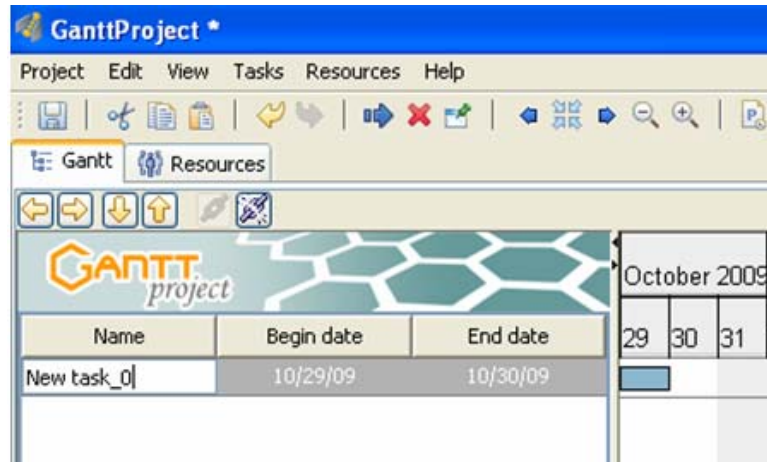

Figure 3.8: The task pane with the name column selected.
1. In the Tasks pane, notice that the text in the Name column is selected, enabling you to name the task as illustrated in figure 3.8.